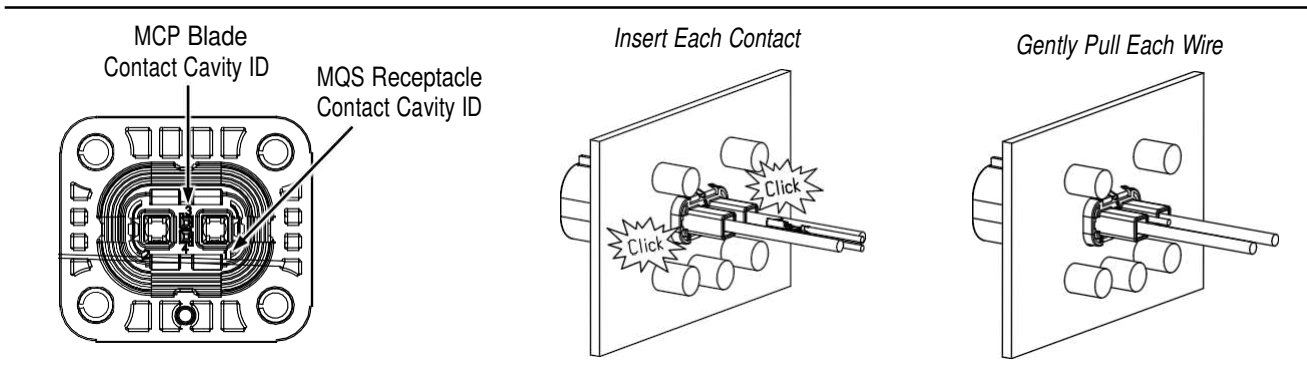

Figure 3
2. Note the contact cavity identification (ID) numbers on the wire end of the header. Insert each contact into the appropriate contact cavity until there is an audible click. Refer to Figure 3. Gently pull back on the wire of each contact to verify that the contact is fully locked.